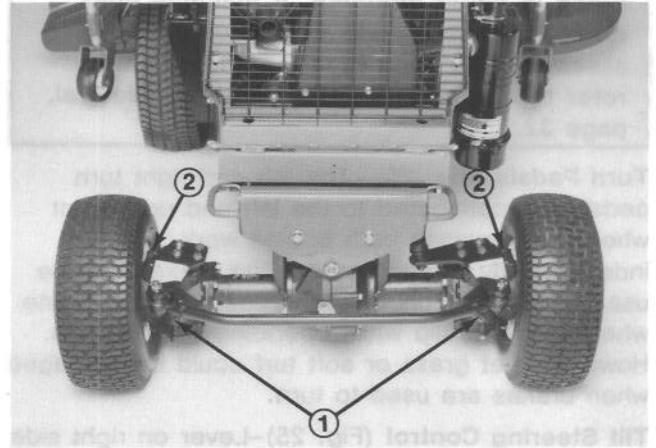

Figure 24
the bottom of the hole (Fig. 24).
3. Remove plug in center of axle and check level. If level is low, add enough lubricant to bring the level up to the bottom of the hole (Fig. 24).